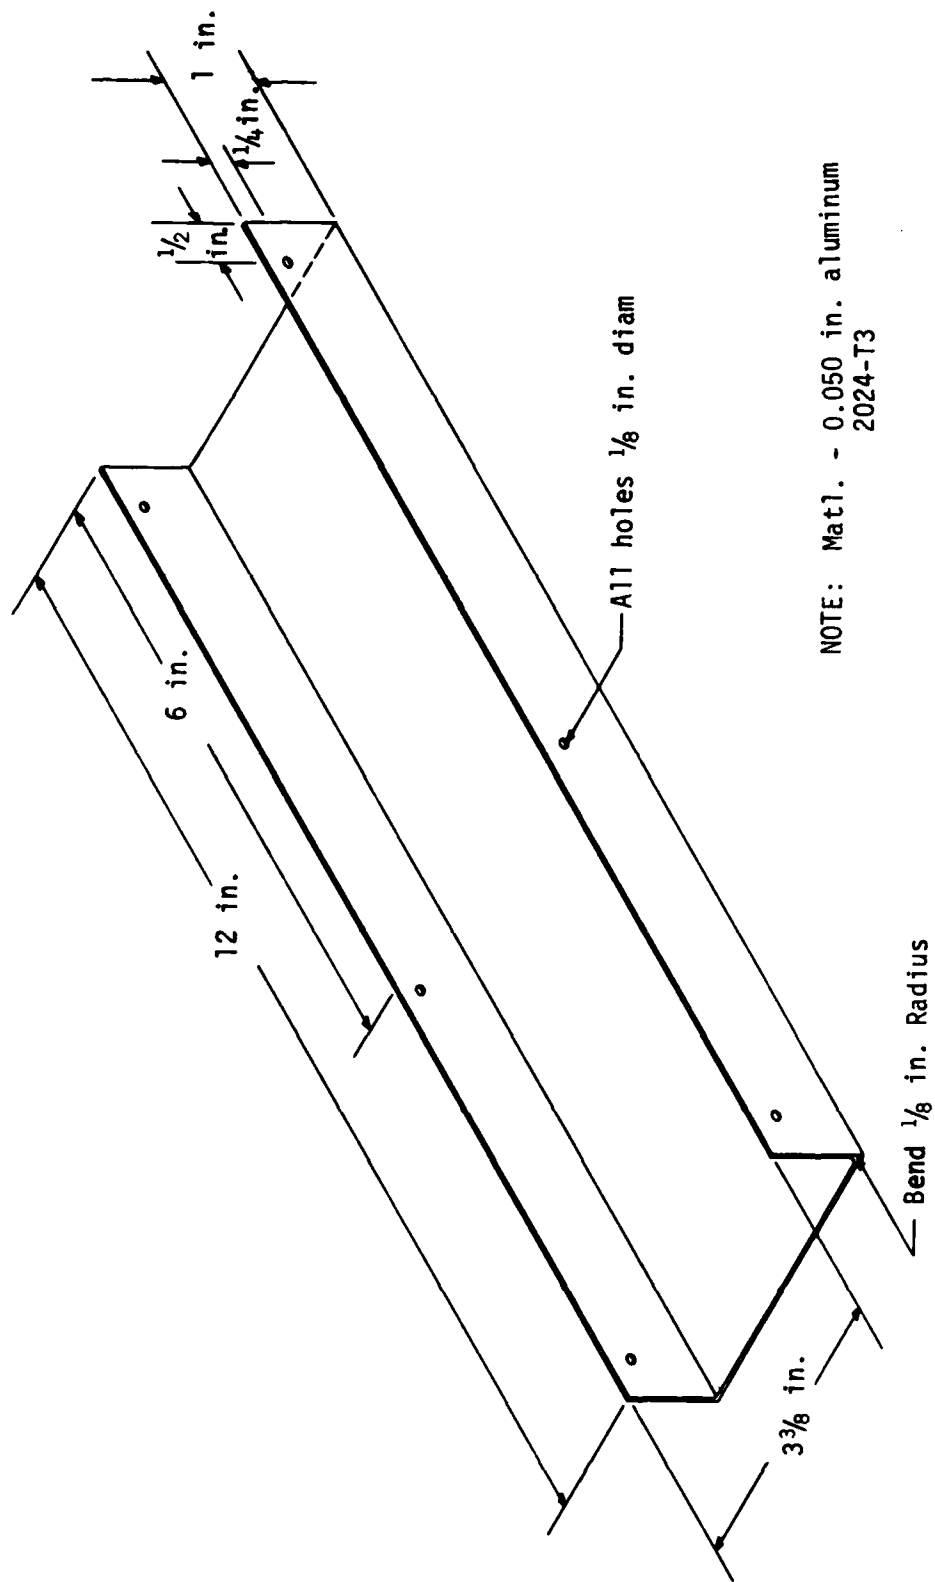

FIGURE 3
- b. Figure 3 shows all the necessary dimensions for construction of the battery support bracket.